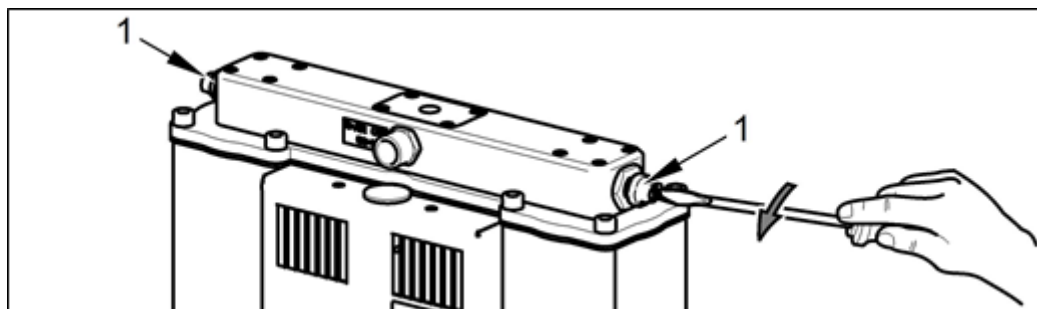

Fig. 34: Venting pressure from the dryer chambers
- Open the vent plugs on the outlet module on the equipment (Fig. 34).